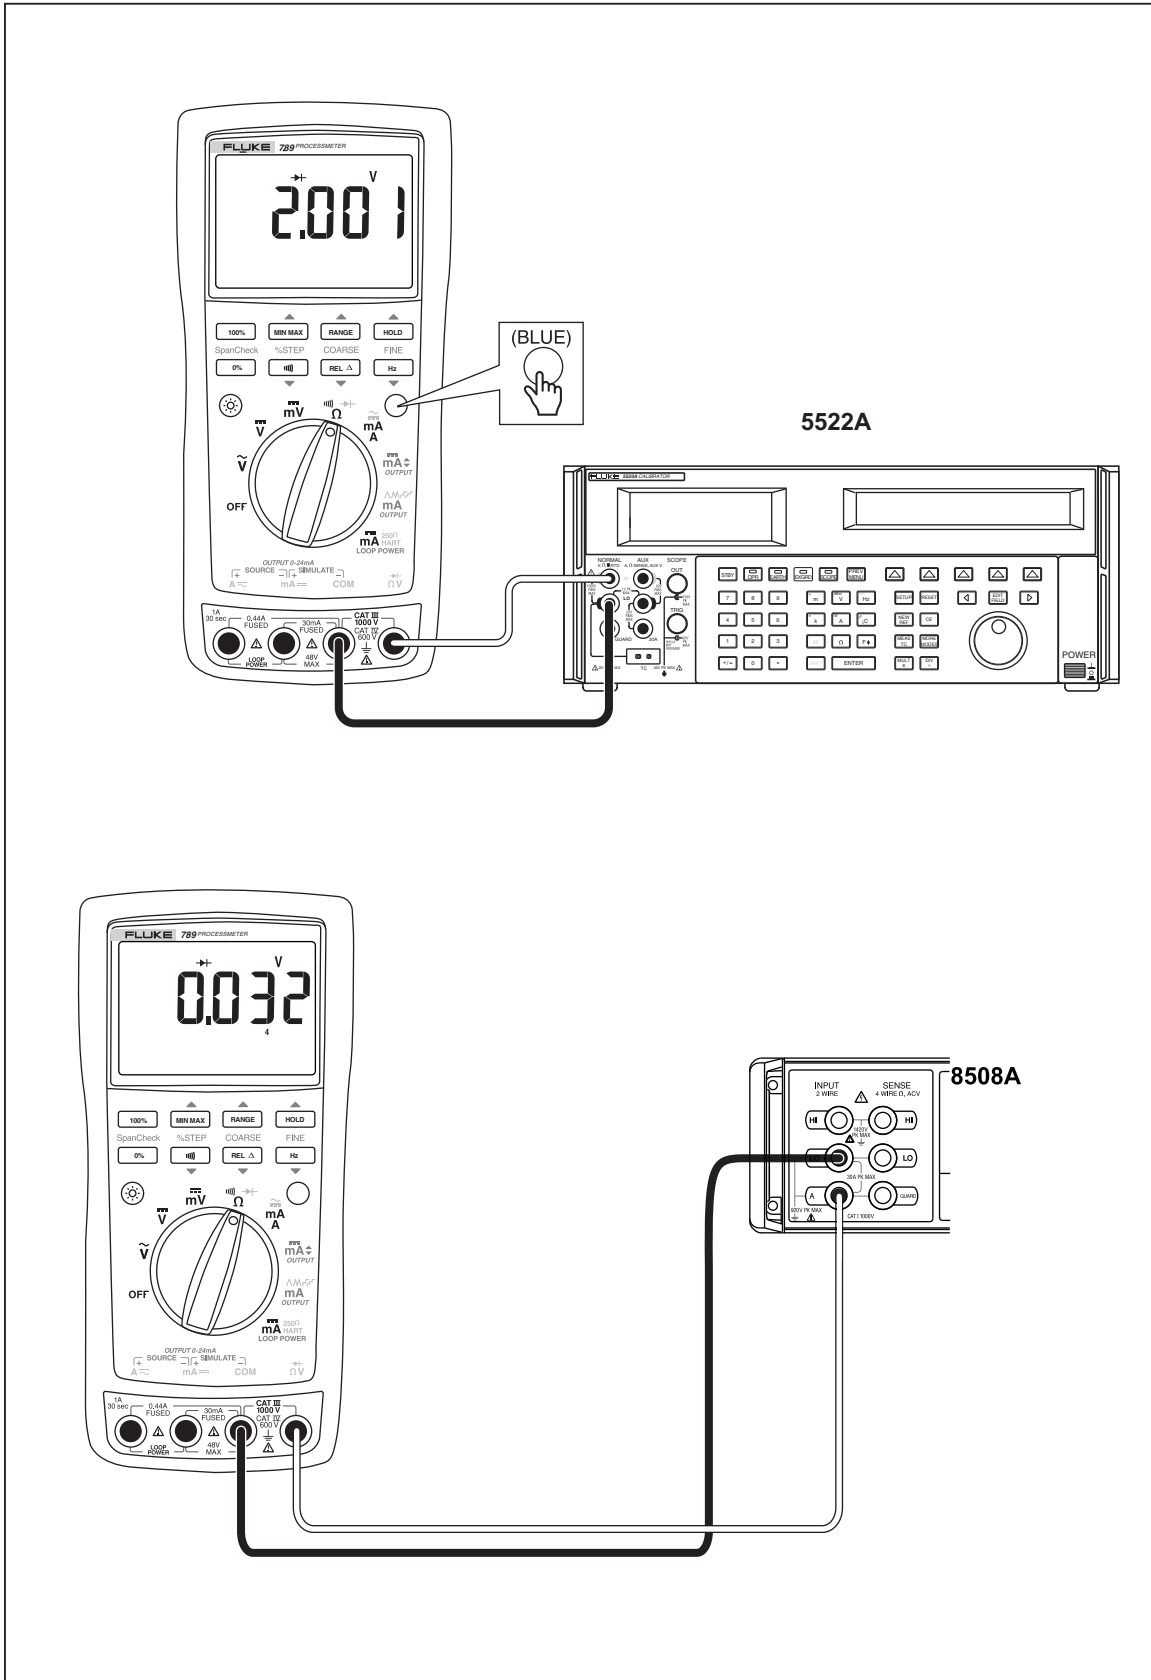

Figure 5. Diode Test Connections
4. Connect the calibrator to the **COM** and $\Omega \rightarrow$ terminals on the UUT as shown in Figure 5.